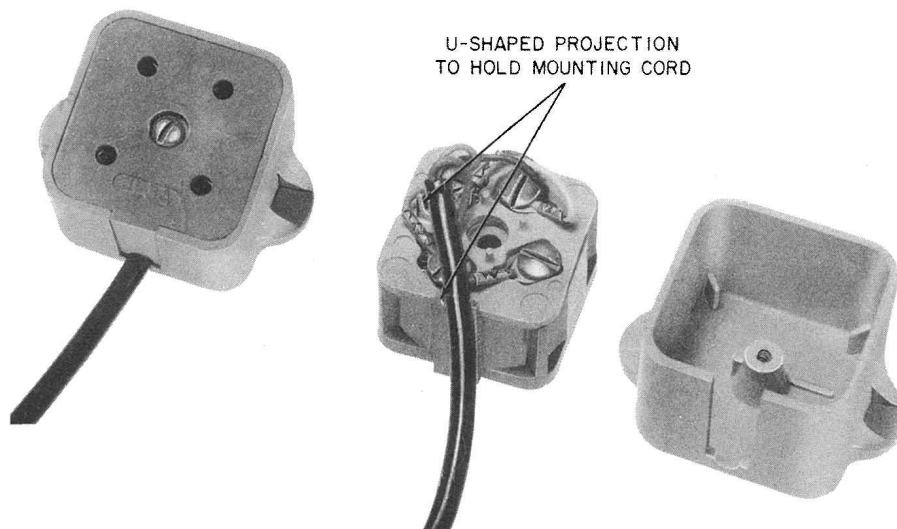

Fig. 3 — 423A Plug, Front and Rear Views
2.04 The 423A plug (Fig. 3) is a two piece, 4-contact molded plastic plug for use with the 750-type panel telephone set. U-shaped projections are molded in the base for securing the mounting cord.